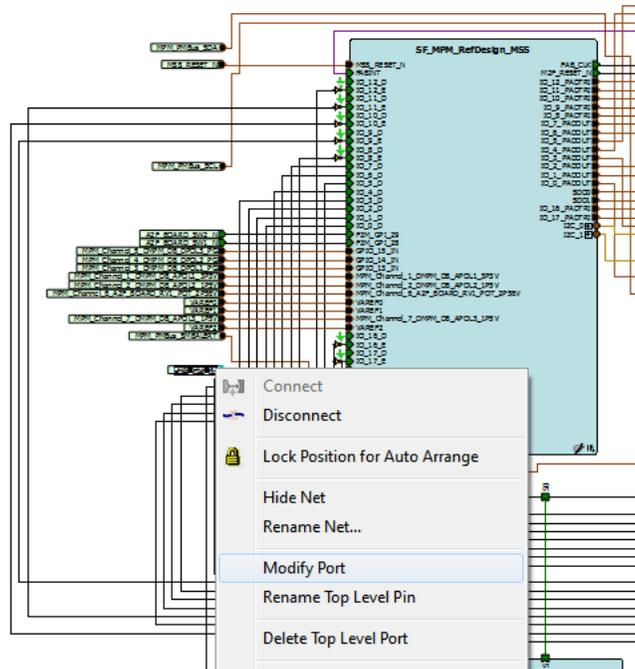
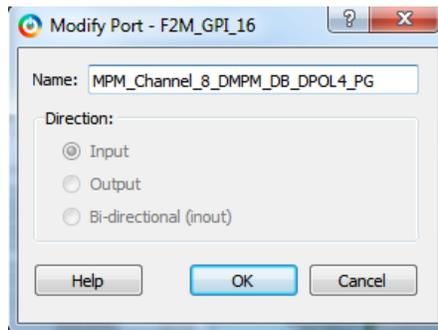

Figure 51 • Selecting Modify Port
Figure 52 • Modify Port Dialog Box
- Right-click the F2M_GPI_16 pin of SF_MPM_RefDesign_MSS and select Modify port as shown in Figure 51. Enter port name as shown in Figure 52 on page 34.